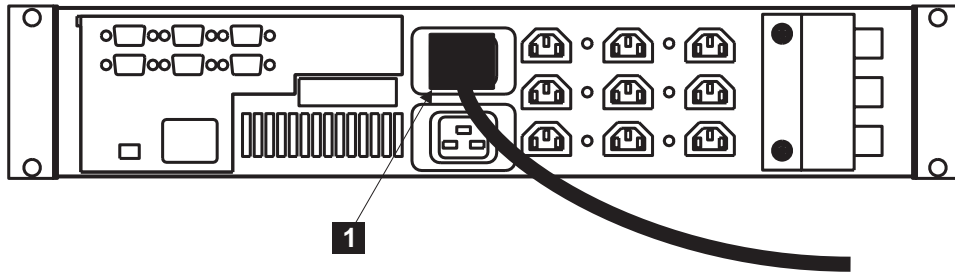

Figure 35. Installing the 2145 UPS power cable
9. At the back of the 2145 UPS, plug the 2145 UPS main power cable (**1** in Figure 35 on page 72) into the power socket.